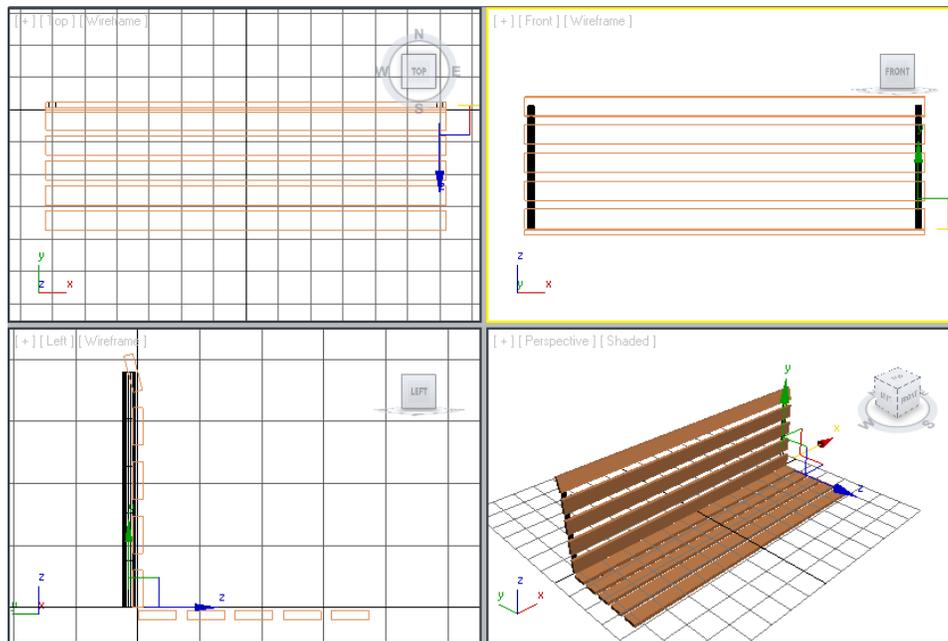

Figure 2-66 The vertical back support002 in all viewports
6. Activate the Front viewport by middle-clicking in it. Choose the **Select and Move** tool and move the cursor over the horizontal axis. Press and hold the SHIFT key and the left mouse button, and then drag the *vertical back support001* to the right side to align it with the right side of the *horizontal back support*, as shown in Figure 2-66. Release the left mouse button and the SHIFT key; the **Clone Options** dialog box is displayed.
7. In the **Clone Options** dialog box, make sure the **Copy** radio button is selected. Set the value **1** in the **Number of Copies** spinner and choose the **OK** button; the *vertical back support002* is created with the same dimensions as the *vertical back support001*, refer to Figure 2-66.